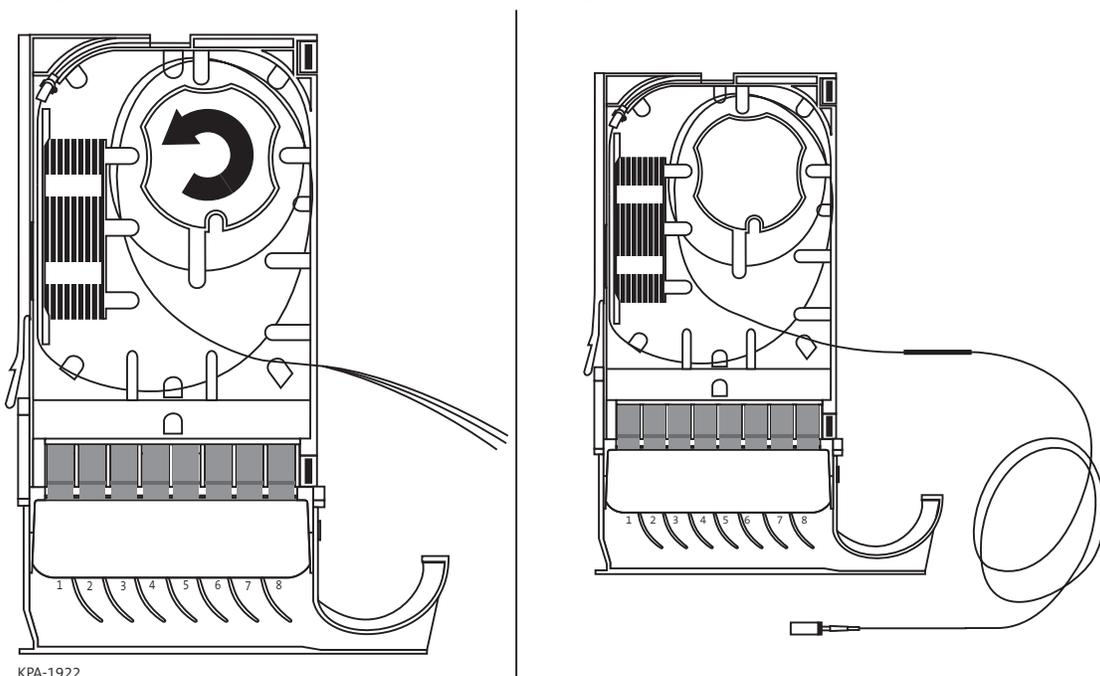

Figure 28
Step 4: If pigtail is 900 μm fiber, splice a pigtail fiber to each input fiber (Figure 28).